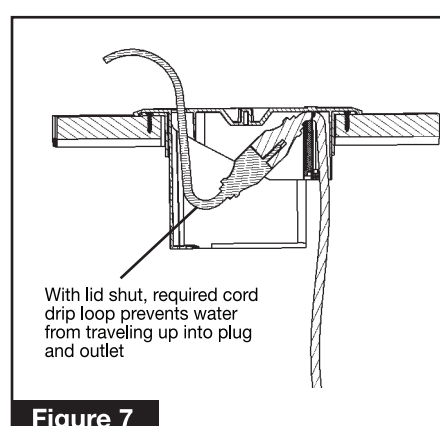
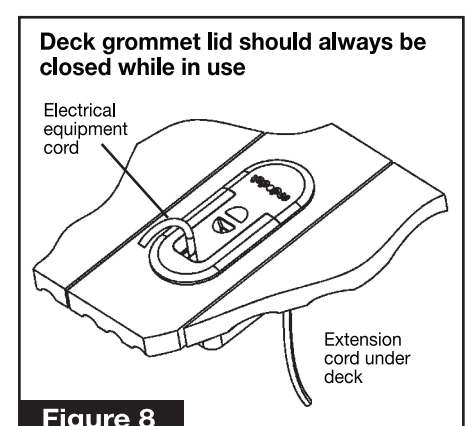

Figure 7
Figure 8
9. Create a drip loop by pushing the electrical equipment cord down into the deck grommet (Figure 7) and then close the deck grommet lid while routing the electrical equipment cord out through the slot in the end of the deck grommet lid (Figure 8).